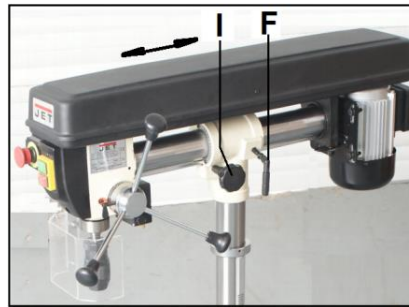

Fig 6
Head can be moved back and forth. Therefore loosen the clamping lever (F, Fig 6) and turn back and forth the moving knob (I).